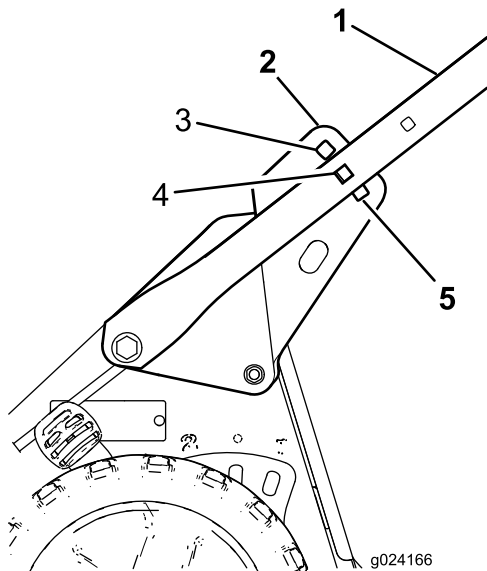

Figure 5
- Stand in the operating position to determine the handle height that is most comfortable for you (Figure 5).